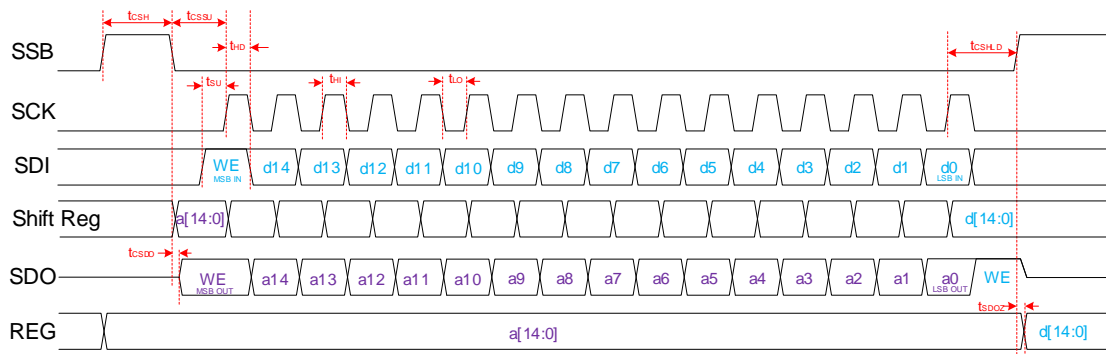
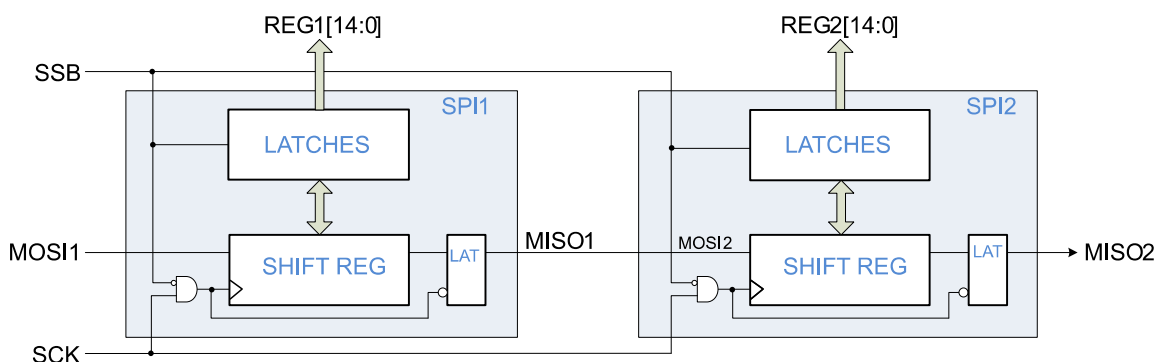
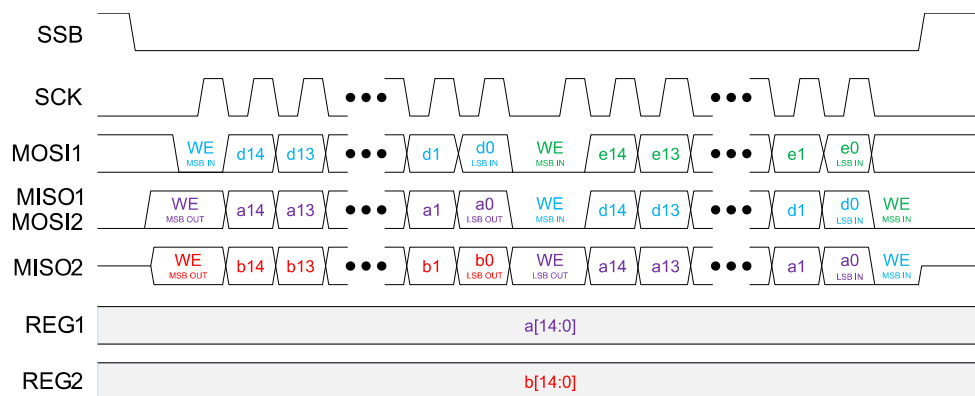
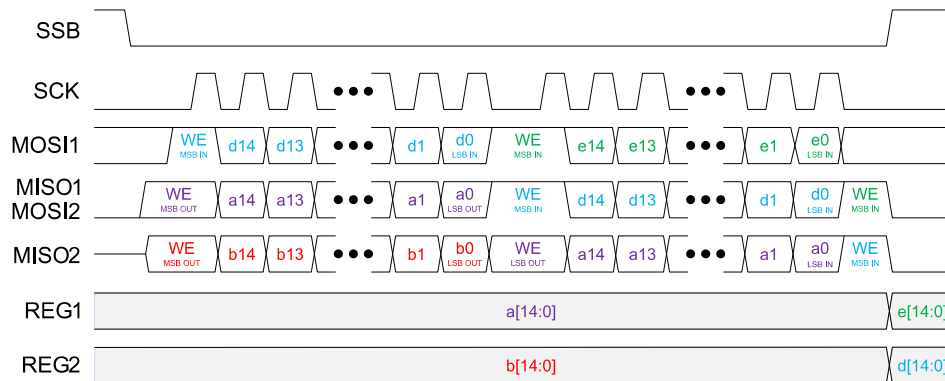

Figure 8. SPI Timing Diagram
Figure 11. SPI with 2 ICs Daisy-Chained
Figure 12. SPI Read Only (2 ICs Daisy-chained)
Figure 13. SPI Read & Write (2 ICs Daisy-Chained)
MODE = 0, activates the 16-Bit Serial Peripheral Interface (SPI) module for operation. Multiple devices can be daisy-chained to drive multiple ICs using one SPI bus (see Daisy Chain Operation, Figure 11, Figure 12, and Figure 13). The SPI works at any frequency up to a maximum of 33 MHz and may operate at significantly lower frequencies if the logic signals adhere to the data setup and hold requirements.
SPI timing diagrams are provided in Figure 8 through Figure 13. In SPI mode, data transmission starts when SSB goes Low, causing the Target to output the Most Significant Bit (MSB) of data to the SDO (MISO) pin. Data transfer from Host to Target takes place during the rising edge of the clock (SCK), which is idle when SSB is High. This mode of operation requires data for Host and Target to be present on SDI (MOSI) before the rising edge of the clock (defining SDI to SCK setup time). Data is pushed out of the SDO (MISO) pin during the falling edge of the clock. After the first 16-bit transaction, Host writes the latest data (DN) to
Daisy chaining the ICs is permitted and involves connecting the MISO of one chip to the MOSI of the next chip in the chain, as shown in Figure 11. SPI timing diagrams with daisy-chained devices are provided in Figure 12 and Figure 13.